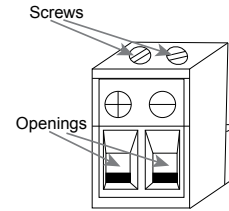

Figure 2
- Adjust the two top screws of the Loudspeaker Connection Plug to provide a sufficient opening size so the bare wire will fit into the connector. Refer to figure 2.